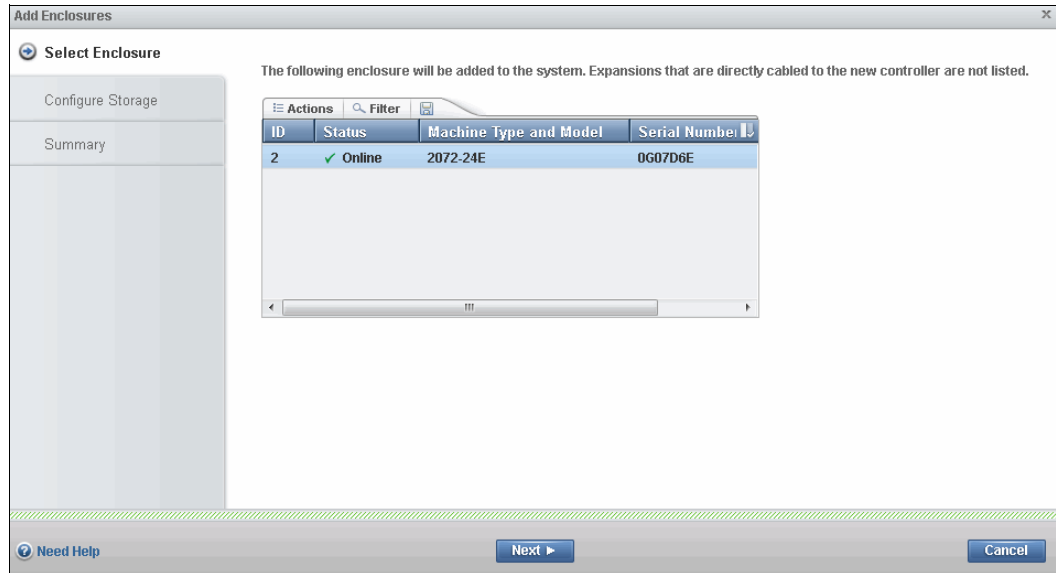

Figure 2-35 Adding a new expansion enclosure
4. The wizard shows the details of hardware to be added. Highlight the enclosure that you want to add to your existing IBM Storwize V3700 and click **Next**, as shown in Figure 2-35.